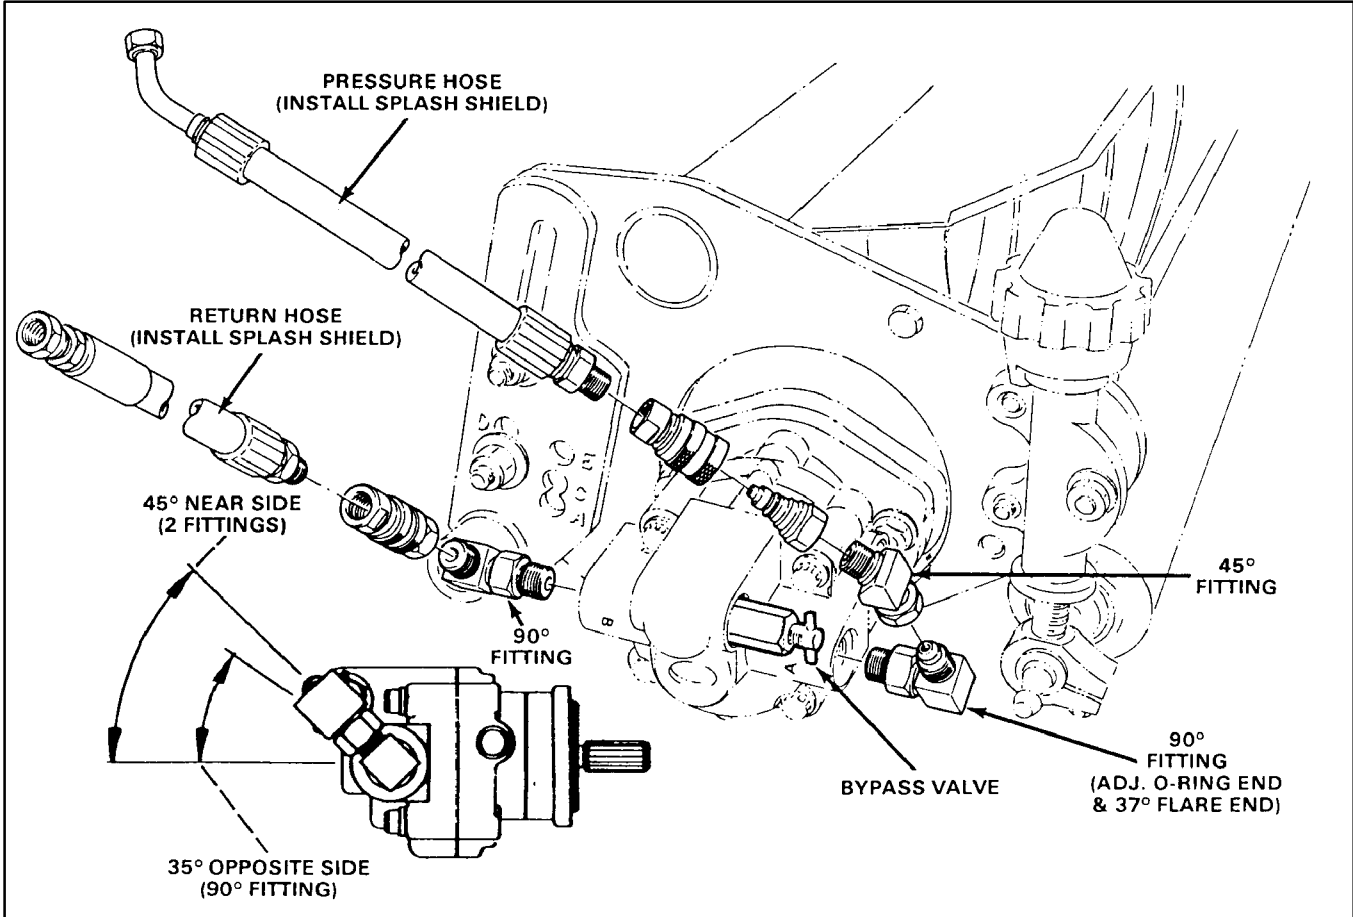

Figure 2
- 4. Identify correct fitting locations and position for each cutting unit by referring to Figures 2, 3 and 4.